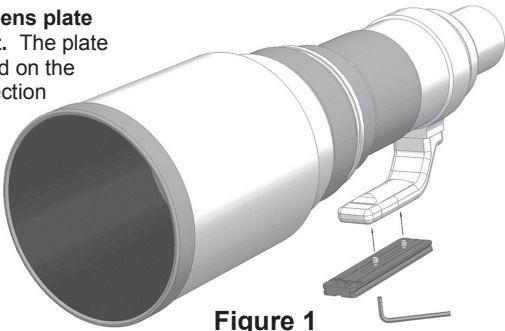

Figure 1
5. Use the enclosed 5/32 hex key to attach the lens plate to the foot of your lens (Fig. 1). Our fasteners are specially machined at the top to allow them to slide freely within the center slot. **Important Note:** when removing the plate, loosen screws gradually while gently pulling the plate flush against the screw caps to prevent binding of the screw threads in the center slot of the plate.